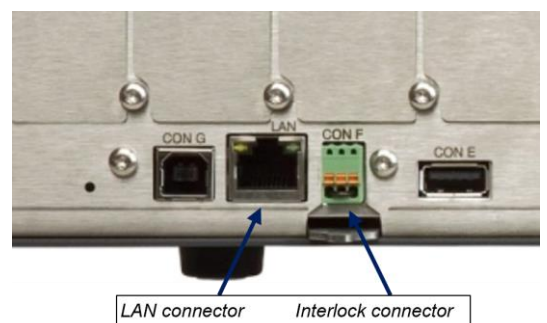
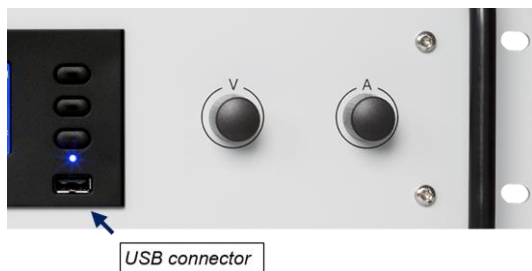

Figure 7.6: The location of the LAN-connector (left) and the Interlock connector (right) at the rear panel
Figure 7.7: The location of the front USB-connector.
- This connector is located at the rear side, marked as LAN see Figure 7.6.
- This connector is located at the rear side, marked as CON F, see Figure 7.6.
- The type-A (Host) connectors are located at the front panel near the display, and one at the rear panel (CON E), see Figure 7.6 and Figure 7.7.
- The type-B (Device) is located at the rear panel (CON G), see Figure 7.6.